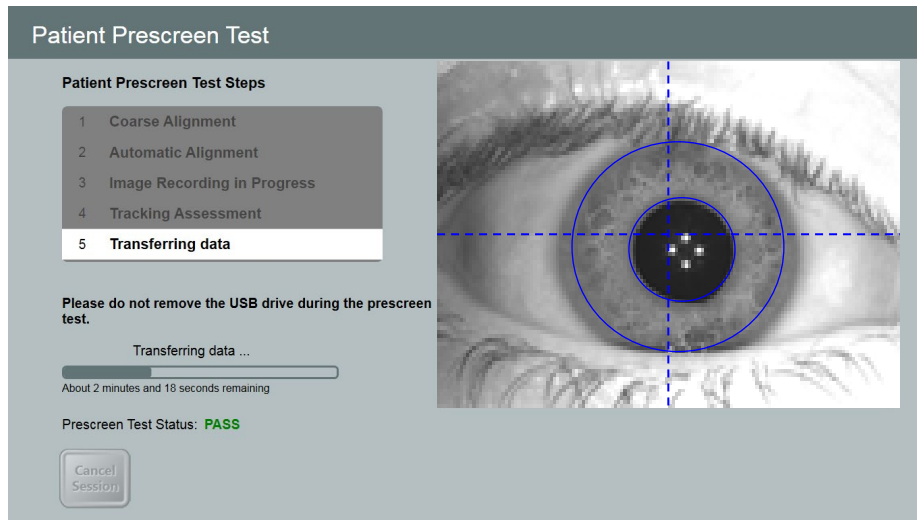

Figure 6-11. Prescreen Test Pass
- An onscreen “Pass” message as shown in Figure 6-11 will indicate that the test is complete and data will be transferred to the USB drive. Do not remove the USB drive during this step.